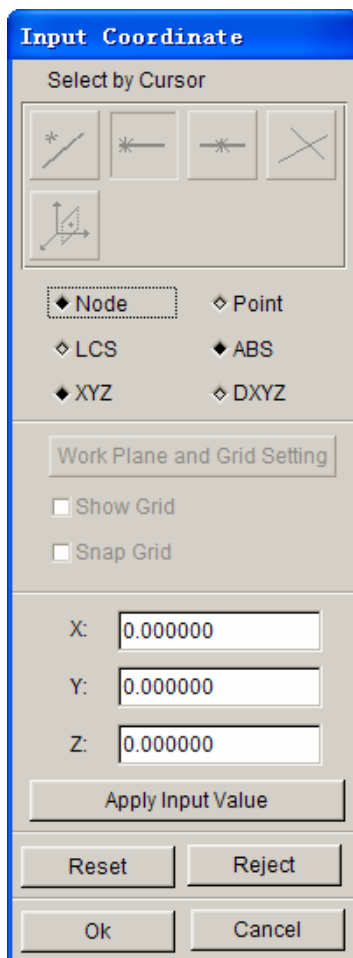

Figure 5.3.15 Input Coordinate dialog box
- If NODE/POINT is selected, the dialog box as illustrated in Figure 5.3.15 is displayed. This window prompts the user to select the appropriate NODES/POINTS and also provides an option to define the orientation vector.